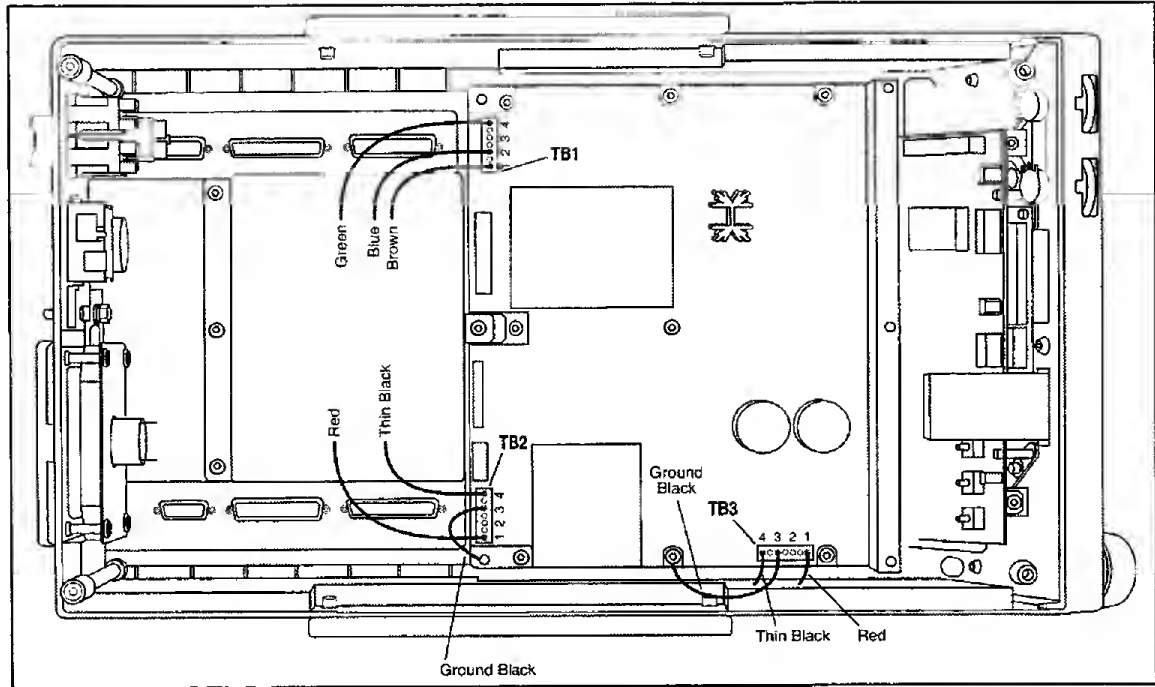

Figure 7-4: Power Supply Wire Connections
(Refer to Figure 7-4 unless specified otherwise)
**CAUTION: Ensure that the wires mentioned in steps 3 – 5 are connected properly per Figure 7-4.**